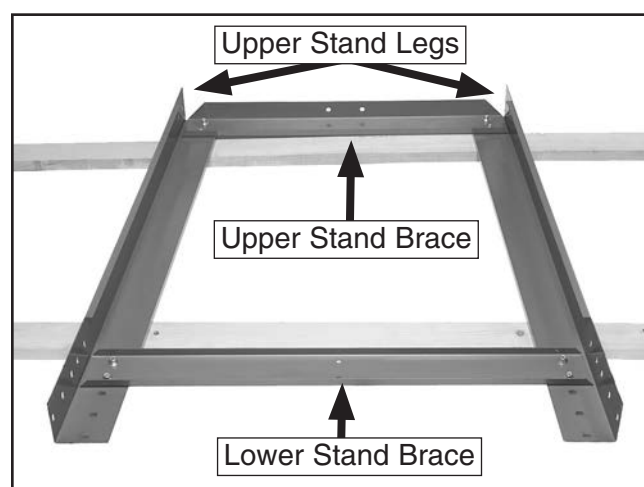

Figure 17. One side of upper stand assembled.
1. Use (8) $\frac{3}{8}$ "-16 x $\frac{3}{4}$ " hex bolts, (16) $\frac{3}{8}$ " flat washers, and (8) $\frac{3}{8}$ "-16 lock nuts to connect 2 upper stand legs, 1 upper stand brace, and 1 lower stand brace —*only finger tighten the fasteners* (see Figure 17).